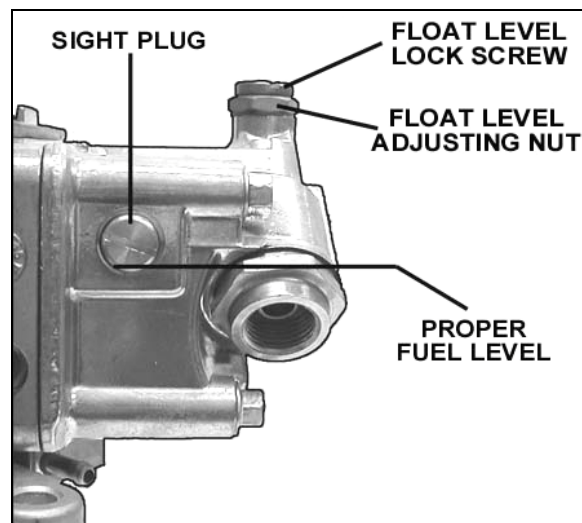

Figure 12
**NOTE:** A properly set float level will have the fuel level located at the bottom edge of the sight hole, as shown by the line in Figure 12.